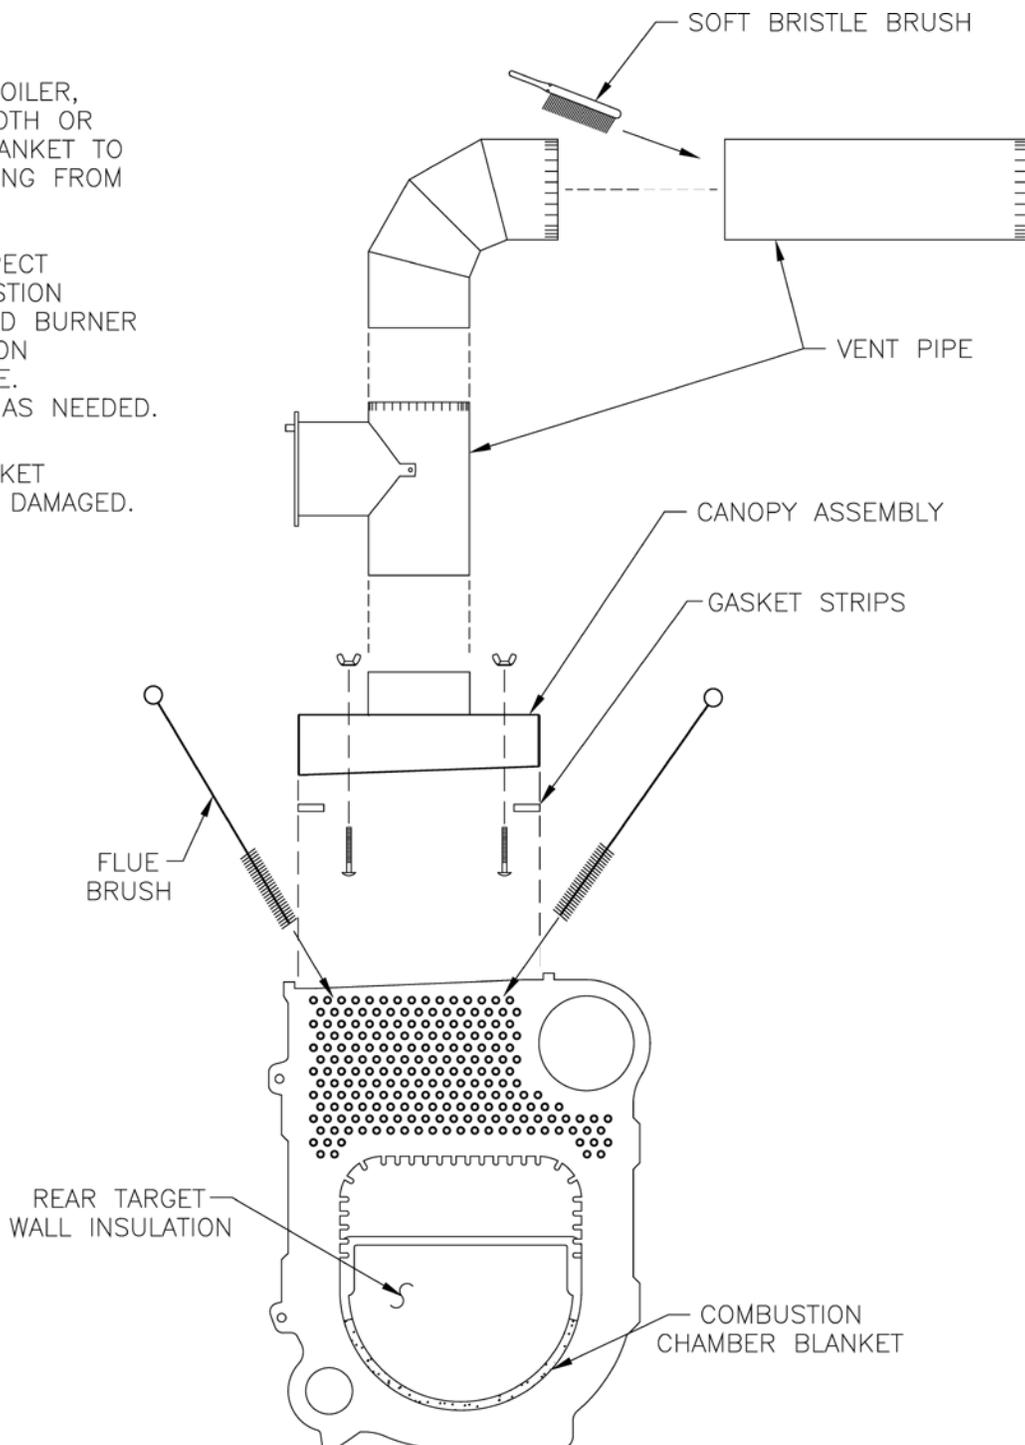

Figure 32: Cleaning of Boiler Flueways
A. CLEAN THE FLUEWAYS (See Figure 32).